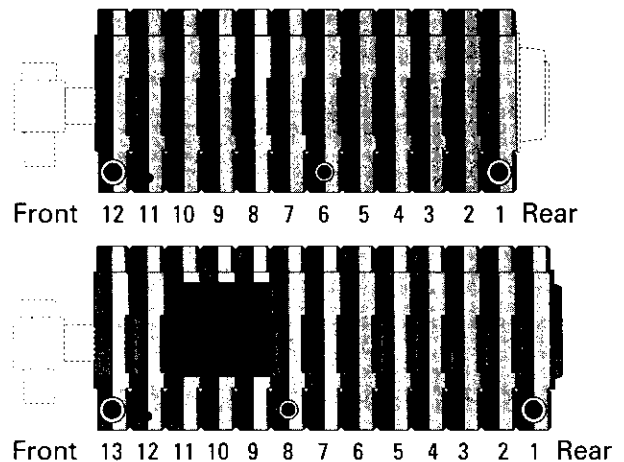
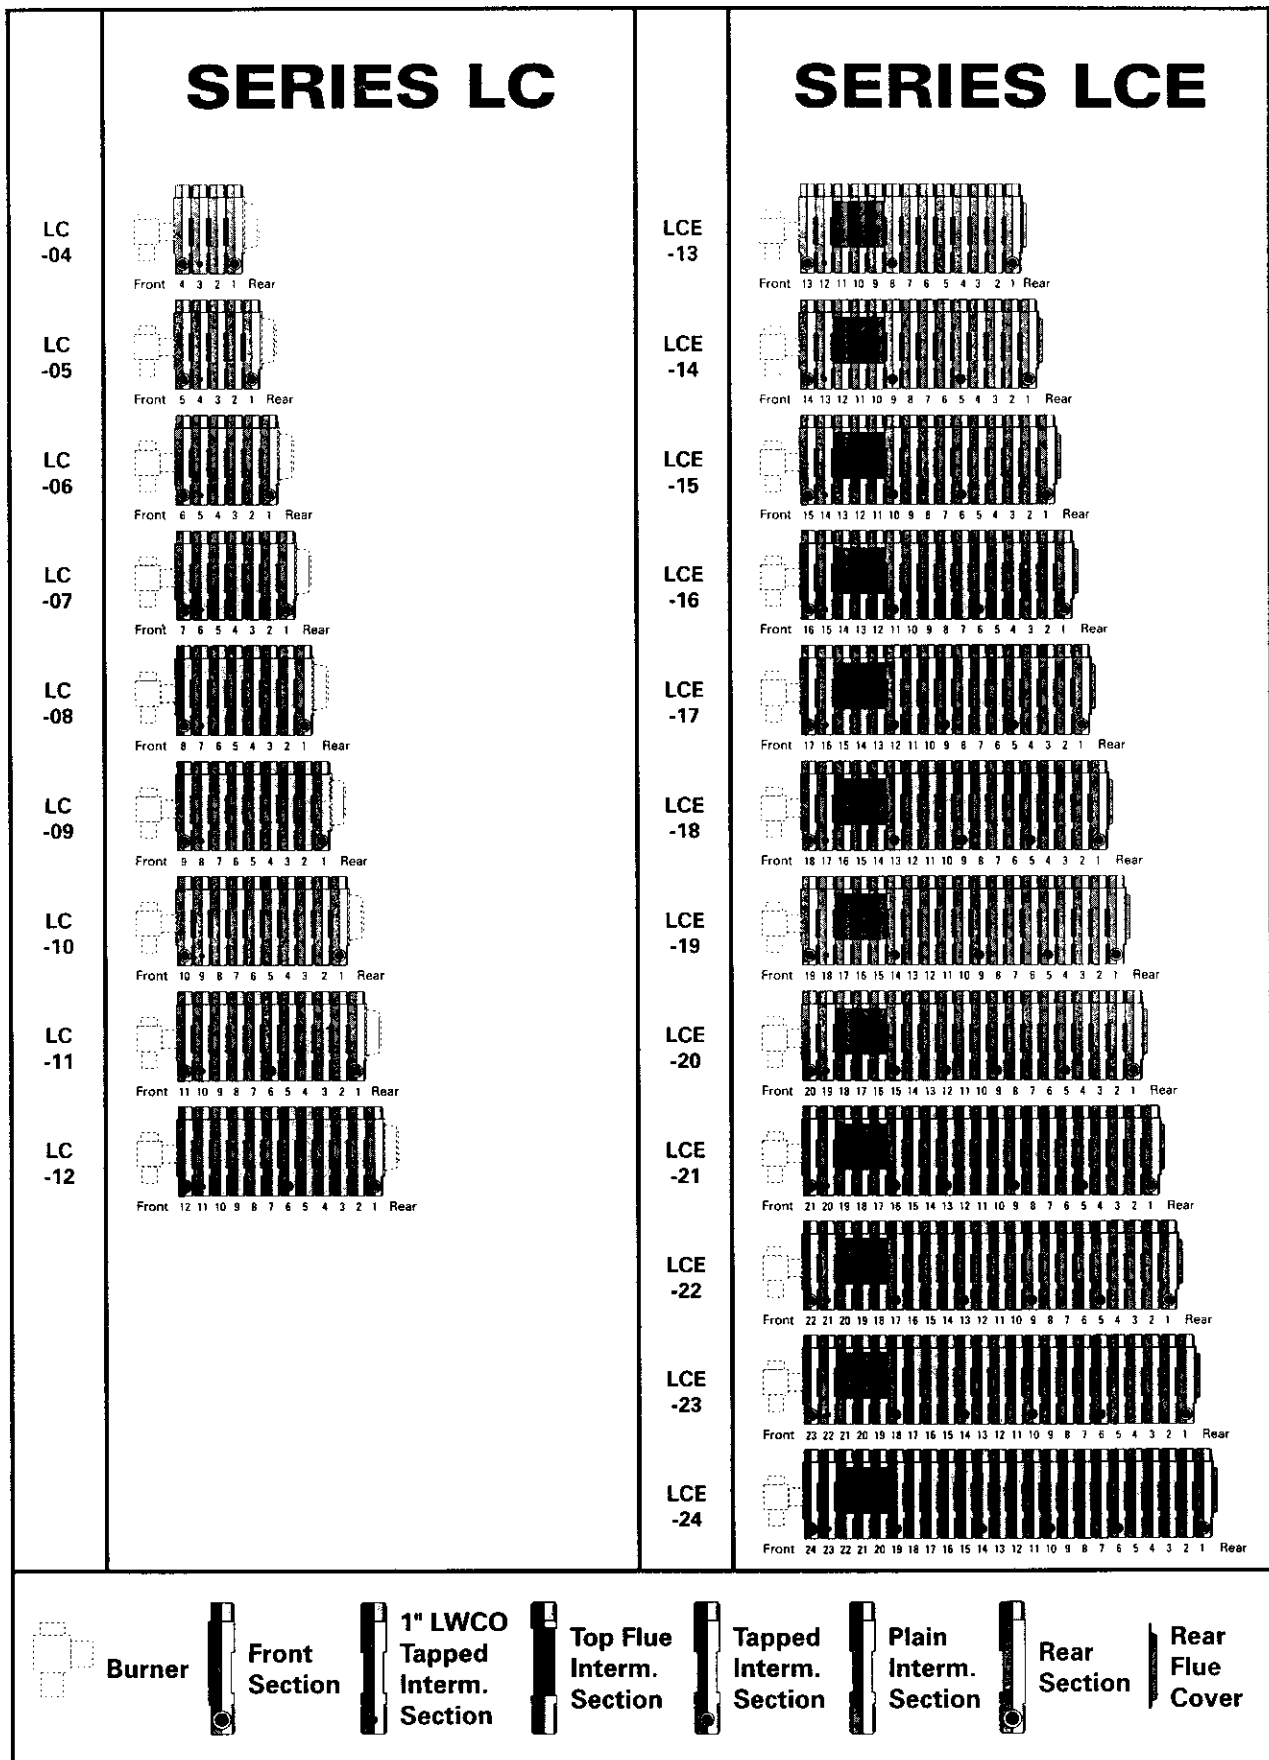

Figure 12: Section Positioning Numbering
Figure 13: LC/LCE Boiler Section Assembly Sequence
- Place the Intermediate Section with 3" top tapping (Tapped Intermediate) in the position given in Figure 13.
- LCE ONLY. Save the (3) Top Flue Outlet Intermediates (with wide opening in top of the flue collector) for use as the sections closest to the LWCO Intermediate Section. See Figure 13.
- Three (3) Top Flue Outlet Intermediates
- The remaining intermediate sections are 3" Tapped Intermediates or Plain Intermediates as shown in Figure 12 and Figure 13.